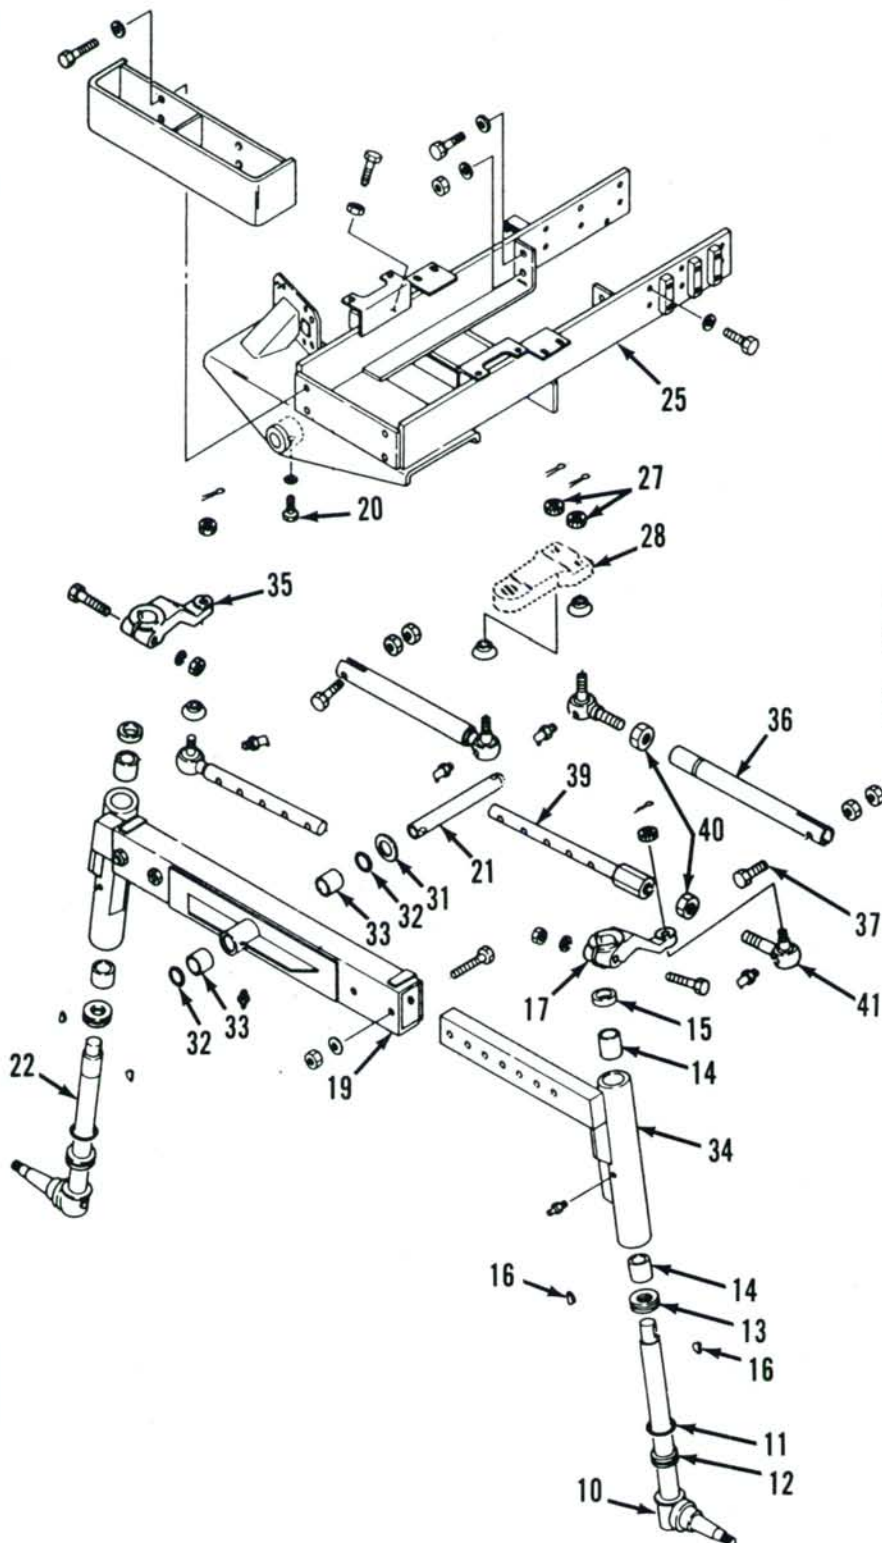

Fig. 4—Exploded view of adjustable axle used on 265 models. Axle is offset to right side of engine centerline.
3. On 265 models, one tie rod connects left steering arm (17—Fig. 4) to steering arm (28) and a second tie rod connects right steering arm (35). Automotive type ends are not adjustable for wear and should be renewed if worn. Holes for clamp bolts (37) in tie rods are used to adjust length of tie rods when changing adjustable axle width. It is important that both tie rods be adjusted to the same width and that width corresponds to the axle width. Refer to paragraph 14 when changing axle width.
7. To remove either spindle (10 or 22—Fig. 4), first raise and support axle, then remove wheel and hub.
11. The front axle pivots on a shaft (21—Fig. 4) which is retained in front frame (25) by screw (20).